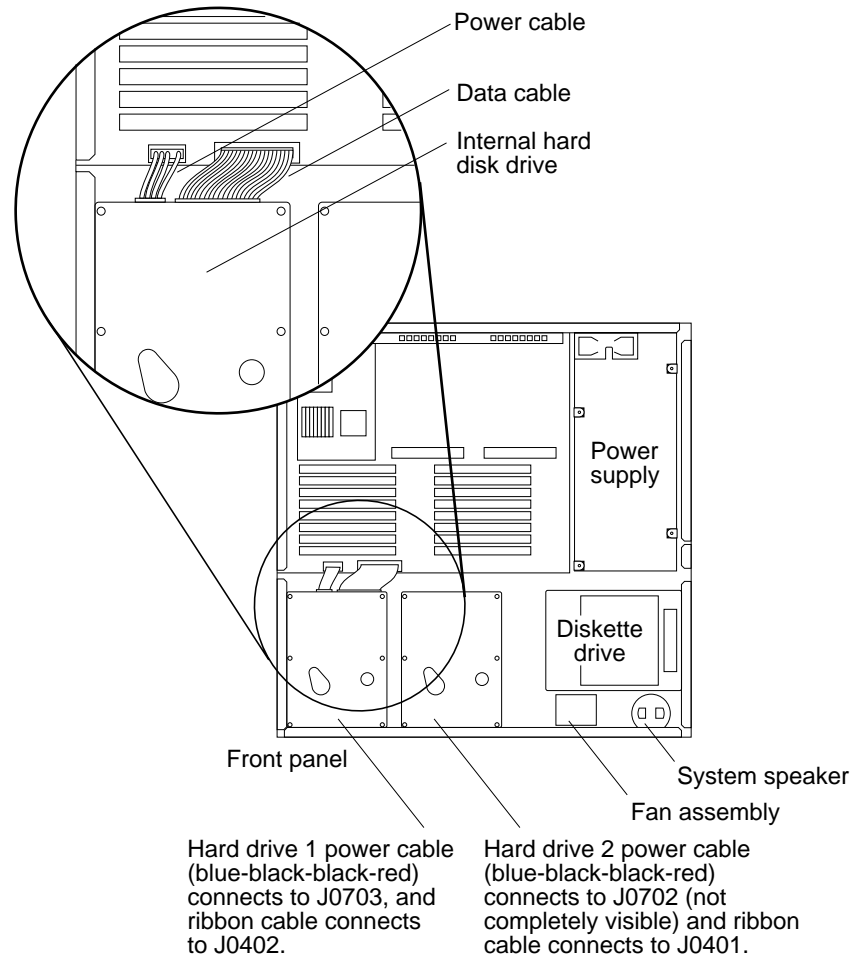

Figure 4-15 Connecting Power and Data Cables to the Hard Disk Drive
- 3. Connect the data and power cables to the main logic board (see Figure 4-15).**